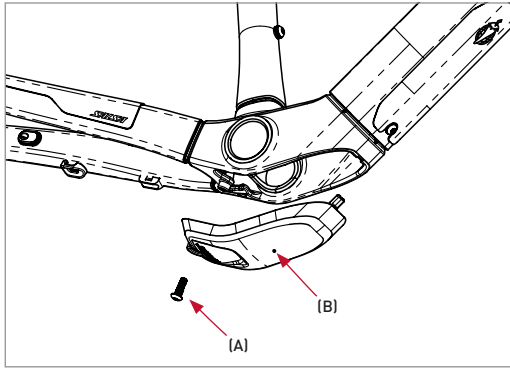

Figure 11
5. Use the T25 Torx wrench to remove the screw (A) from the node cover (B). Remove the node cover (Figure 11).